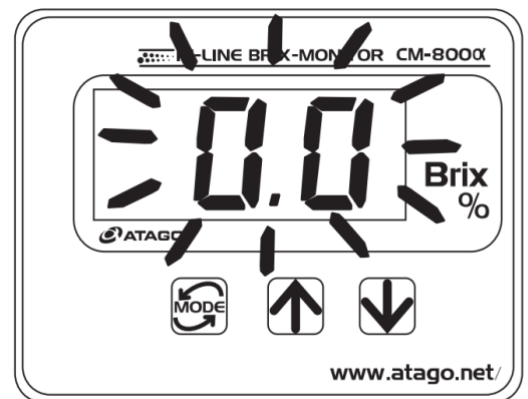

Fig.12-2 Example of the adjustment to the Brix 0.0%
⑤ When the Brix (%) value blinks, adjust the value to 0.0% for distilled water or to the true value for the reference sample by using the  and/or  keys (Fig.12-2).